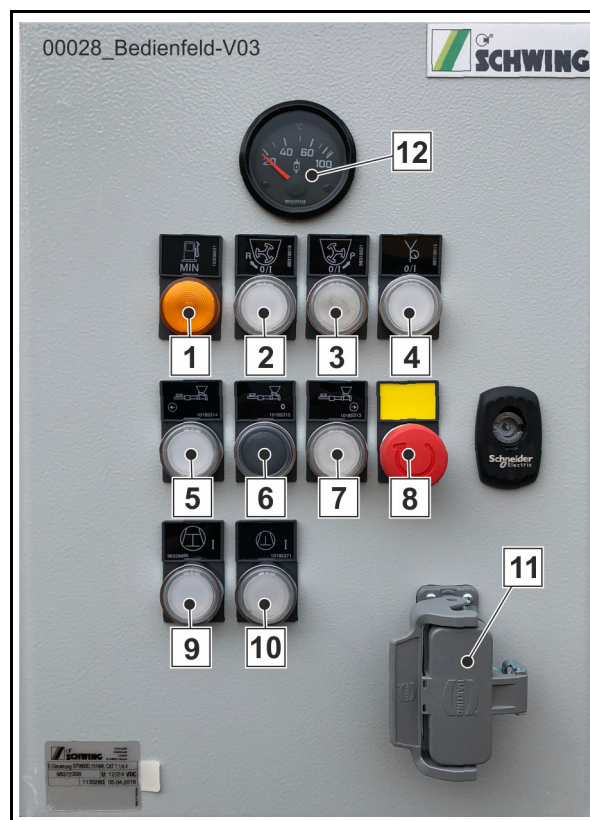
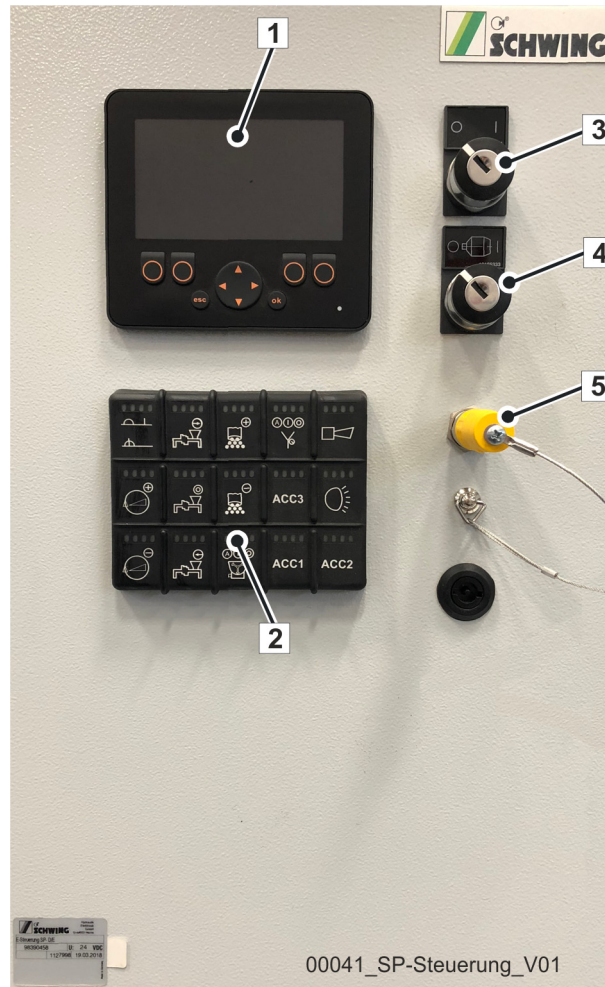

Fig. 221 Example: Operator station on a stationary concrete pump SP 1800.
Fig. 222 Example: Operator station on a stationary concrete pump SP 3800.
- Safety fuses in the switch cabinet or operator station of the concrete pump, see **(Fig. 221)** / **(Fig. 222)**.